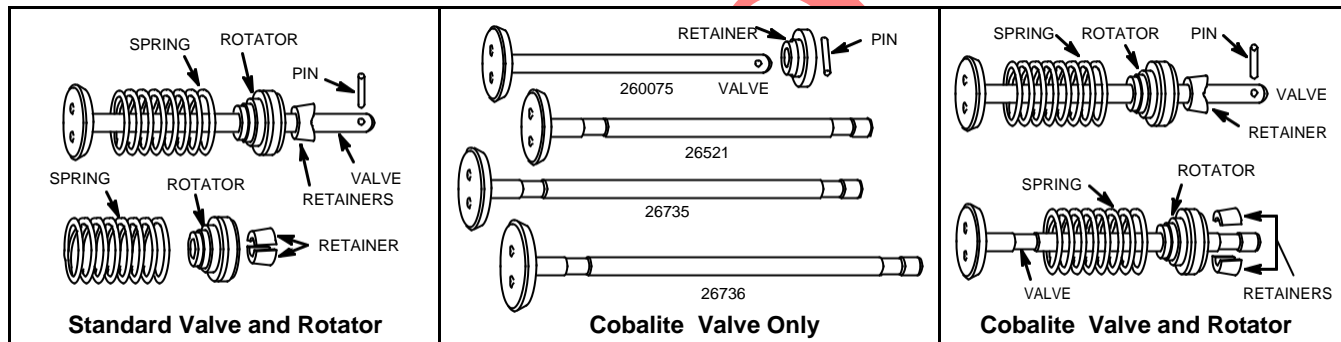

Fig. 535
- O. A valve rotator turns the exhaust valve a slight bit on each lift, wiping away any deposits which tend to lodge between the valve face and seat, Table No. 28, Page 19 and Fig. 535 or,